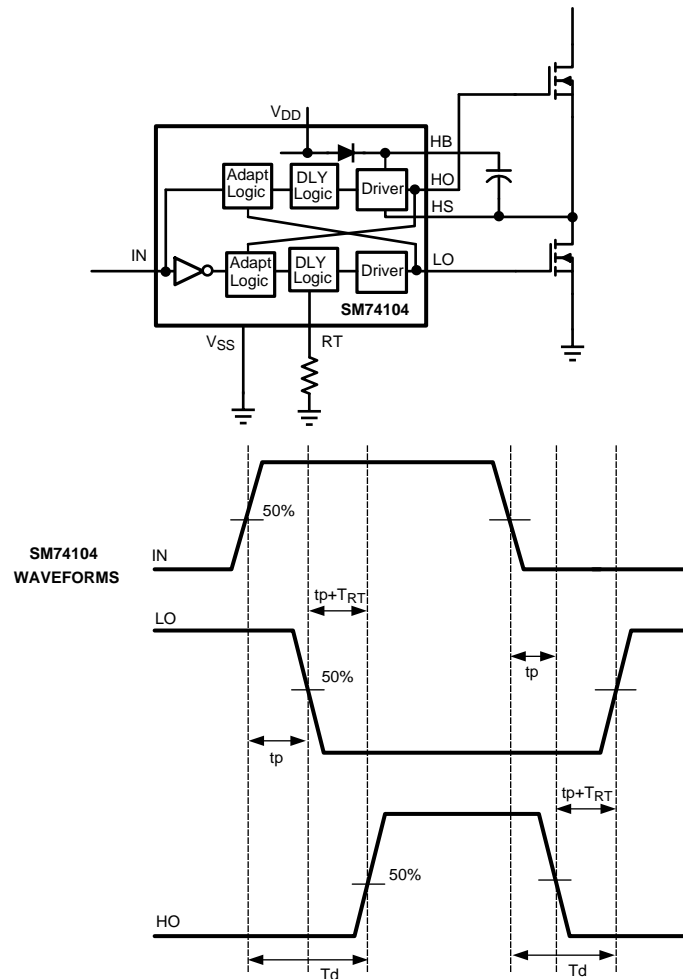

Figure 18. Application Timing Waveforms
SM74104 is a high voltage, high speed dual output driver designed to drive top and bottom MOSFET's connected in synchronous buck or half-bridge configuration, from one externally provided PWM signal. SM74104 features adaptive delay to prevent shoot-through current through top and bottom MOSFETs during switching transitions. Referring to the timing diagram Figure 18, the rising edge of the PWM input (IN) turns off the bottom MOSFET (LO) after a short propagation delay (t_p). An adaptive circuit in the SM74104 monitors the bottom gate voltage (LO) and triggers a programmable delay generator when the LO pin falls below an internally set threshold ($\approx V_{dd}/2$). The gate drive of the upper MOSFET (HO) is disabled until the deadtime expires. The upper gate is enabled after the TIMER delay (t_p+T_{RT}), and the upper MOSFET turns-on. The additional delay of the timer prevents lower and upper MOSFETs from conducting simultaneously, thereby preventing shoot-through.